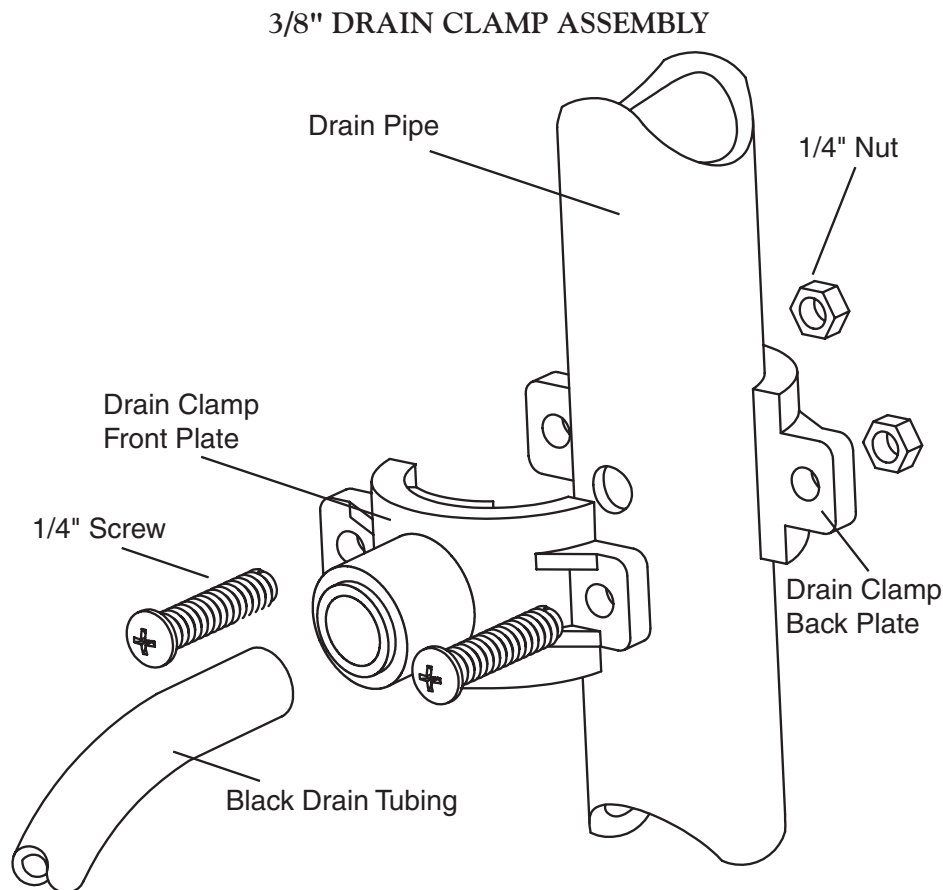

Figure 4
- Refer to Fig. 4, page 9. Insert the tubing into the Drain Clamp. Make sure the tubing is pressed all the way in to create a pressure tight connection.